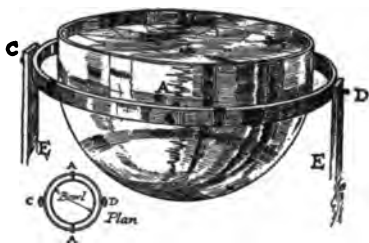

FIG. 184. A mariner's compass.
The mariner's compass. For use upon ships, one addition must be made to the common compass. In order that the needle may always be in a horizontal position and be free from jarring caused by the tramp of the sailors and the motion of the ship, the box is suspended in the gimbals, as is shown in Figure 184. The bowl is hung by two pivots (A) on the opposite sides of a brass ring (C, D) which surrounds it. The brass ring is itself balanced on two pivots on upright supports (E, E). It will be seen that whatever position the supports are in, the box maintains its upright position. Study Figure 184 and make sure that you understand why this is the case.